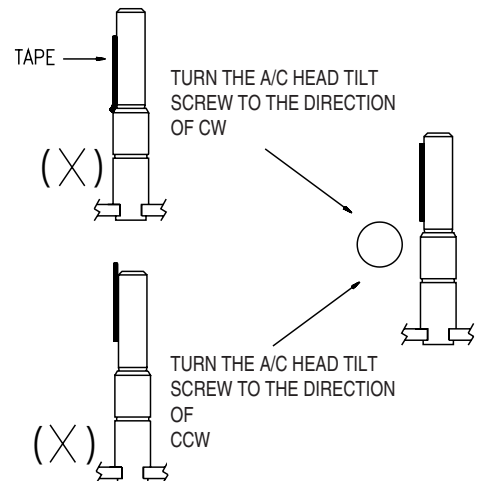

Fig. 5-2 A/C HEAD ASS'Y ADJUSTMENT
- Adjust the A/C HEAD TILT SCREW untill the TAPE runs stable as shown in Fig. 5-2